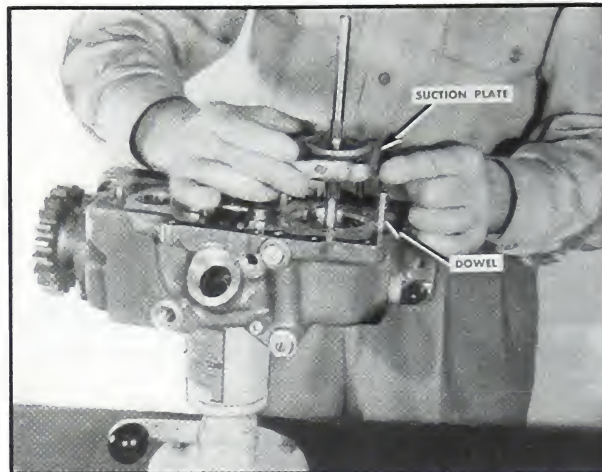

Fig. 5-195. Loosening suction plate
2. Remove six $\frac{1}{4}$ " capscrews from the suction plate. Pry up on the suction plate near the locating dowels. Fig. 5-195.